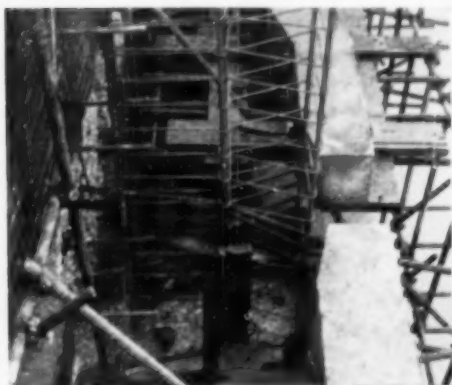

Fig. 5.—Reinforcement for Buttress.
Reinforced concrete buttresses (Fig. 4) at 11-ft. centres replaced the front row of screw-piles which were removed by explosive (12 oz. to 1 lb. per pile) cutting under water. These buttresses are secured to the existing front wall with shear bars (Fig. 5) and are braced laterally with reinforced concrete walings precast on the site. Every alternate buttress
A DISMOUNTABLE mould for casting concrete curved surfaces comprises panels each consisting of a flexible rectangular metal sheet (1, *Fig. 1*), reinforced by parallel V-section stiffeners (2), portions (12) of the sheet (1) extending beyond the ends of the stiffeners so that the edge portions of adjacent panels abut and overlap the stems (11, *Fig. 5*) of curved parallel T-sections supporting ribs (7), whilst the ends of the stiffeners rest on the
cross-bars (9) of the ribs. The ribs are wired to supporting scaffolding, holes (8, *Fig. 5*) in the cross-bars being provided for this purpose, the ends of the stiffeners also being provided with holes for wiring the panels together and to the ribs. The stiffeners extending along the two opposite edges of each panel are distorted (*Fig. 1*) to form abutments so that adjacent panels do not override each other.—No. 688,281. Sir Robert McAlpine & Sons, Ltd., and A. Griffin. March 21, 1951.